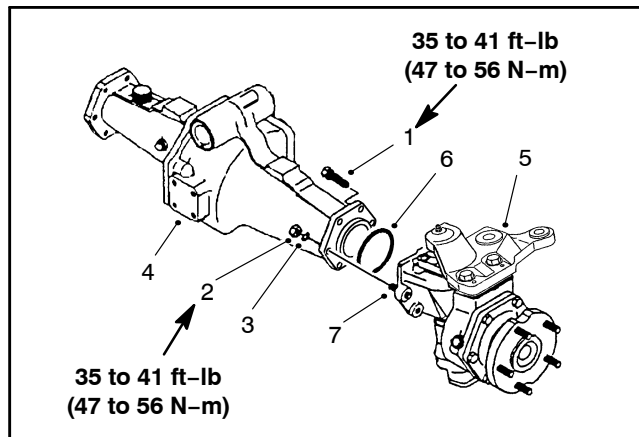

Figure 28
1. Remove the mounting screws, nuts and lock washers. Remove the bevel gear case/axle case assembly and O-ring from the axle support (Fig. 28).